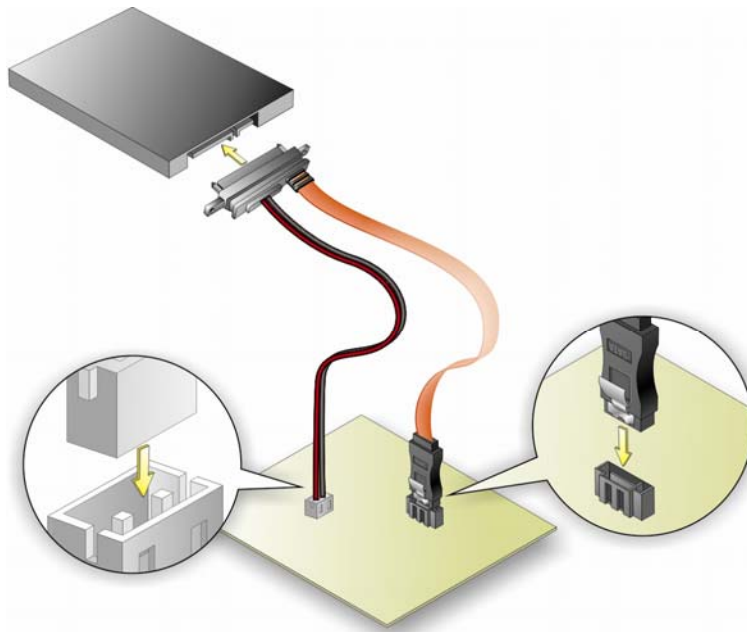

Figure 4-13: SATA Drive Cable Connection
Step 2: **Insert the cable connector.** Insert the cable connector into the on-board SATA drive connector and the SATA power connector. See **Figure 4-13**.
- Step 3:** Connect the cable to the **SATA disk**. Connect the connector on the other end of the cable to the connector at the back of the SATA drive. See **Figure 4-13**.